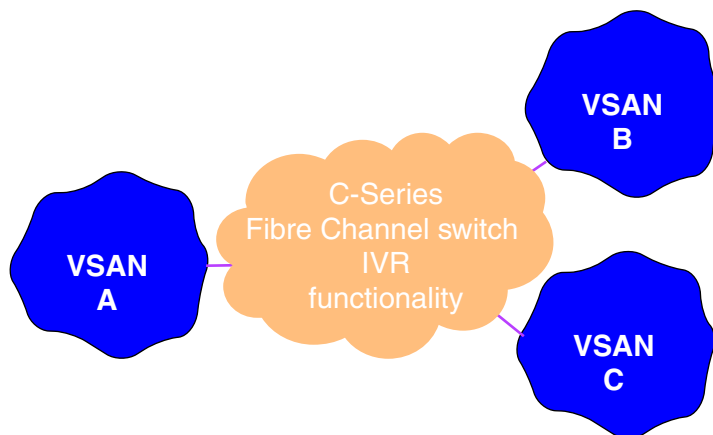

Figure 15: Basic IVR configuration
- Dividing a single fabric into several smaller VSANs (Figure 15 on page 70)
- A C-Series switch with IVR connects multiple VSANs, as shown in Figure 15.
Figure 15 on page 70 shows VSAN A, VSAN B, and VSAN C, each a set of switch ports on one or more C-Series switches. A VSAN can extend across multiple switches. Each VSAN has a unique set of fabric services with independent fabric management. VSANs can share devices by using the license-enabled IVR function. IVR is distributed across all switches in the SAN, and there is no separate router hardware. Because the switches are a connected set, they must run the same version of switch firmware.